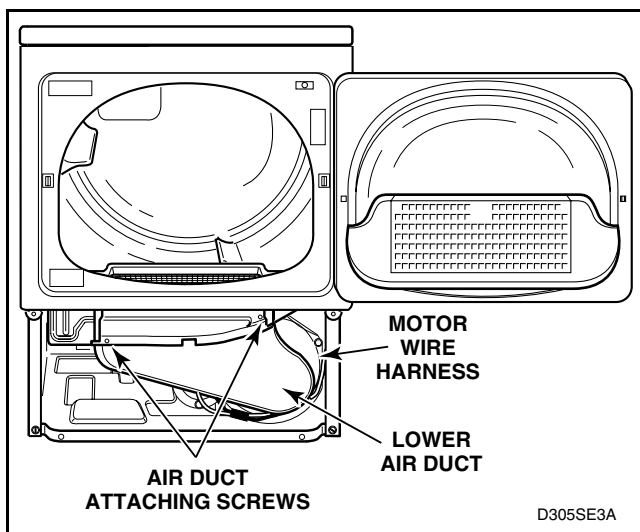
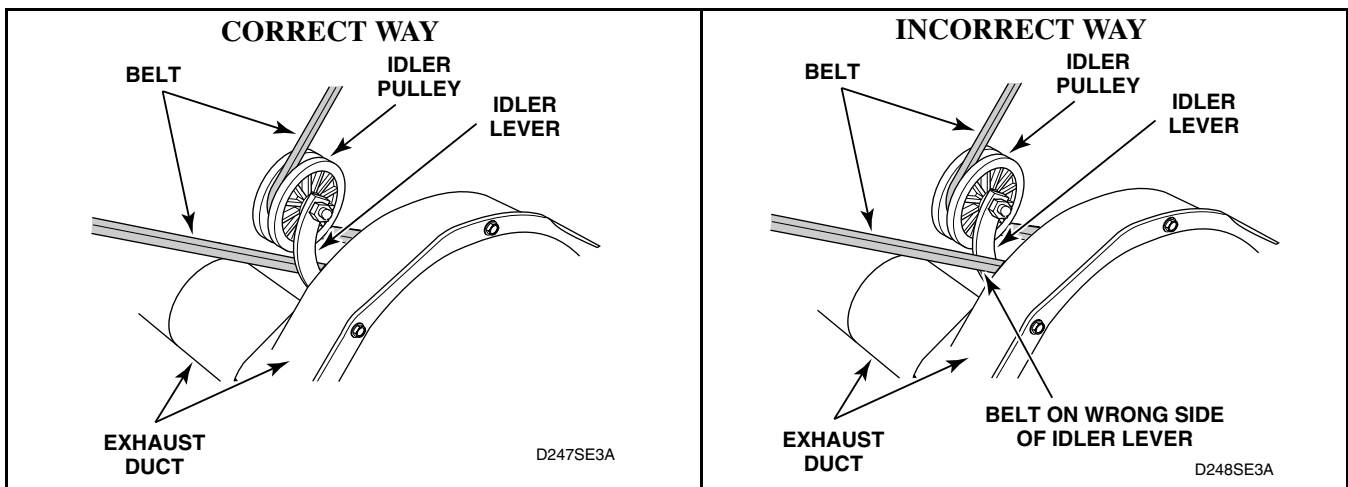

Figure 27
Figure 29
- Remove three screws holding lower duct to upper duct and remove lower air duct. Refer to *Figure 27*.
- Remove screws holding lower air duct to upper air duct and remove lower air duct. Refer to *Figure 27*.
- Remove cylinder belt from idler and motor pulleys. Refer to *Figure 29*.
IMPORTANT: When reinstalling motor and exhaust assembly, be sure wire harness on right side is clipped to motor mounting bracket and is routed along dryer base (between motor mounting bracket and right side of cabinet). Refer to *Figure 27*. Tab on rear of motor mounting bracket must be slid into slot in dryer base. Be sure the belt has been installed on the correct side of the idler lever. Refer to *Figure 29*.
- Disengage belt from motor and idler pulley. Refer to *Figure 29*.